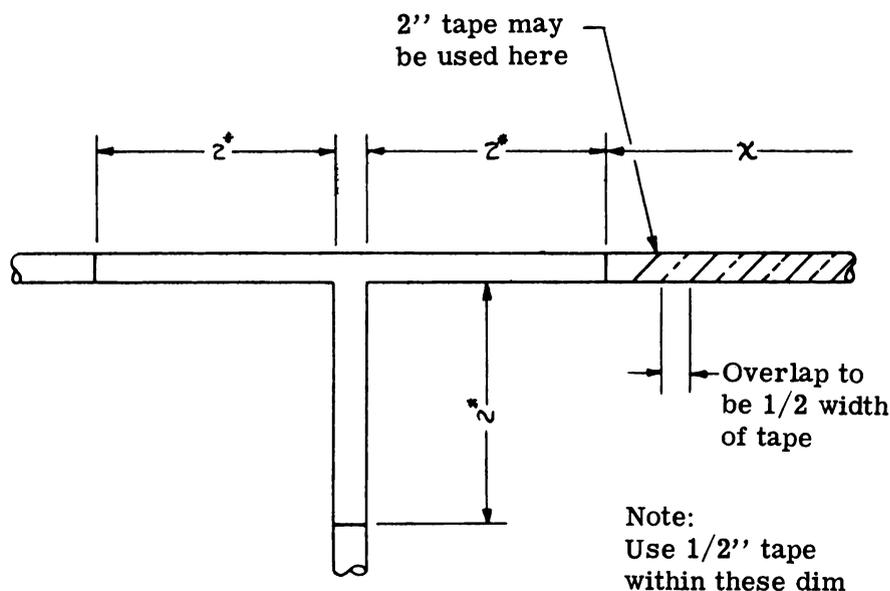

Figure 4-5. Taping
g. Taping: Taping shall be applied with care to insure a smooth surface and a circular cable cross-section. Tapes up to 2 inches in width may be used on cable runs. Junctions shall be taped with tape not over 1-1/2 inches wide on all members extending out 2 inches from the junction center. On all applications each succeeding layer of tape shall overlap the preceding layer by 1/2 the width of the tape. (See Figure 4-5.)